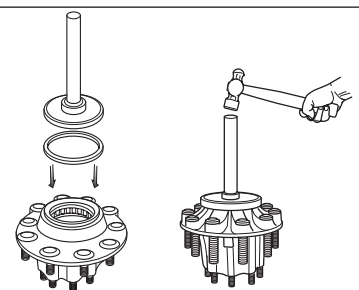

Figure 4
5. Position the seal into the hub bore with the "AIR SIDE" visible. Use the appropriate ConMet installation plate (see chart below) and a generic seal tool handle or a flat plate and small mallet to hammer seal into place. Do not hammer directly on the seal. Make sure the seal is uniformly bottomed out in the bore. (see Figure 4). Check to be certain the seal is not cocked and that the seal inner diameter and the inner bearing turn freely.